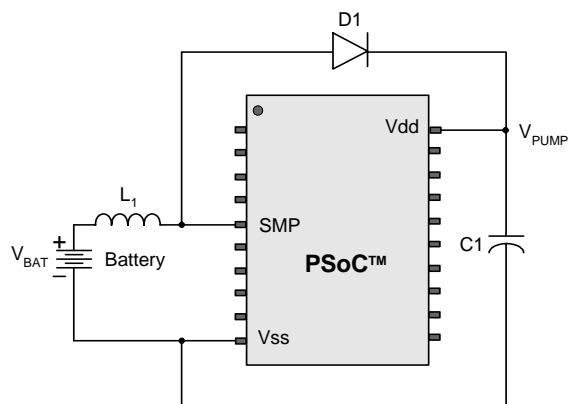

Figure 3-2. Basic Switch Mode Pump Circuit
a. L₁ = 2 μH inductor, C₁ = 10 μF capacitor, D₁ = Schottky diode. See Figure 3-2.